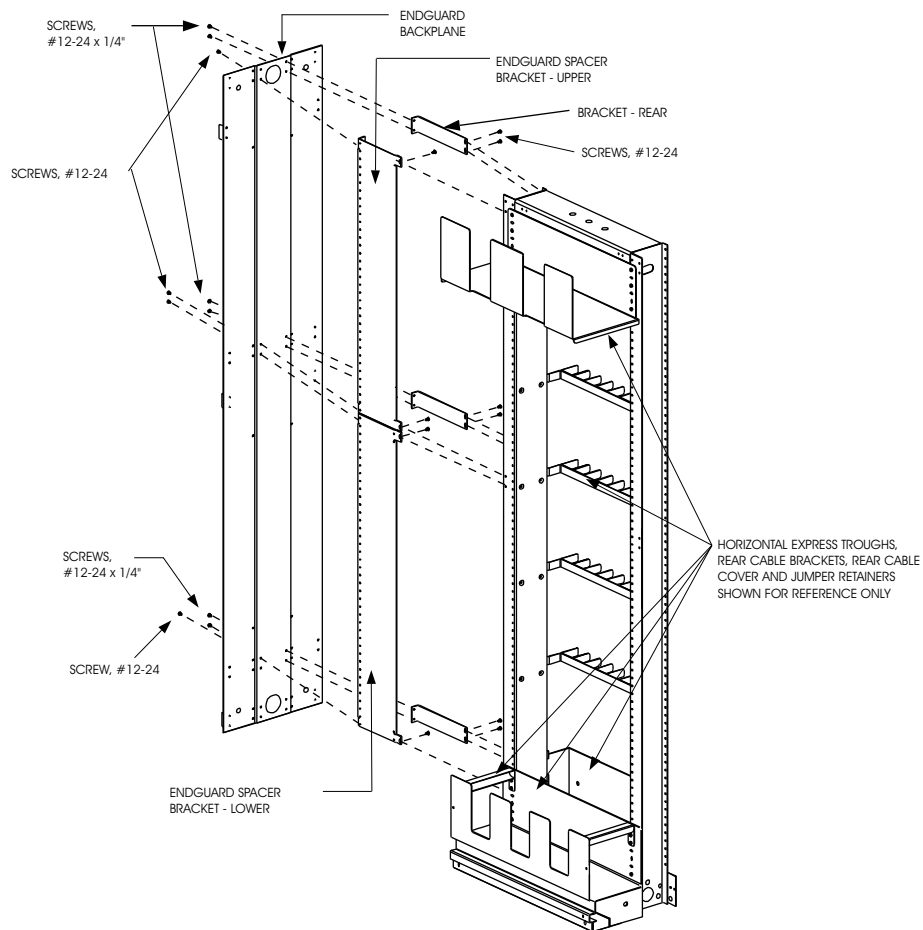

Figure 1. Installing Group 1 Endguard Backplane and Spacer Hardware
1. Install endguard spacer bracket-upper to backside of wide flange of frame with two No. 12-24 by 1/4-inch (5.49 by 6.35 mm) long screws (see Figure 1).